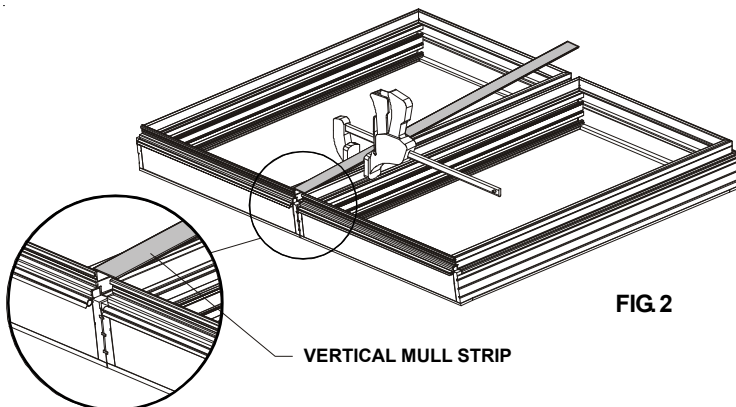

FIG 2
4. Push units together ensuring that the head and sill are aligned and that the jambs are tight together at the mull joint. If there is a gap at the mull joint, it may be necessary to clamp the units together. Apply the mull cap starting at one end of the unit. Using a wood block and a hammer, carefully pound the mull cap into the accessory grooves on the face of the unit until it is seated firmly against the cladding. See Fig. 2